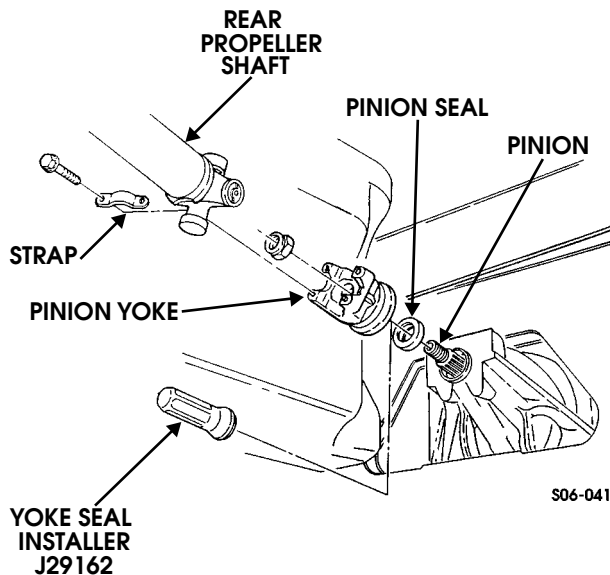

Figure 9-53: Pinion Seal Replacement
2. Remove four bolts, two straps, and rear propeller shaft from pinion yoke (Figure 9-53).
1. Using yoke seal installer J-29162, install pinion seal on pinion (Figure 9-53).